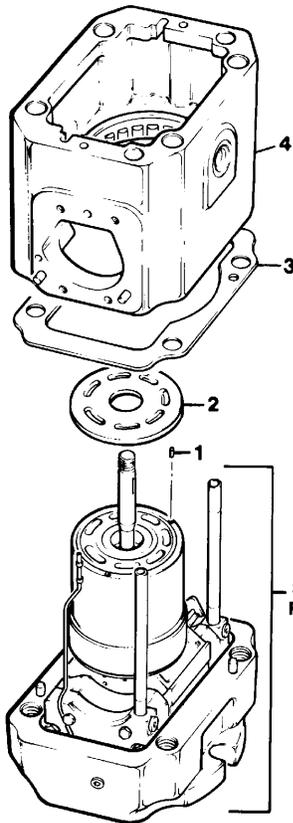

Figure 6
See figure 6: Install the three face plate pins (1) in the holes provided in the barrel face.
**PARTS LIST FOR FIGURE 6**